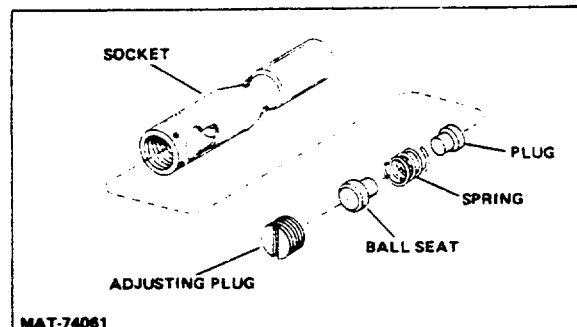

Figure 5-4. Drag Link Components
1. Remove adjusting plug, safety plug, ball seats and spring from drag link tube (Fig 5-4).